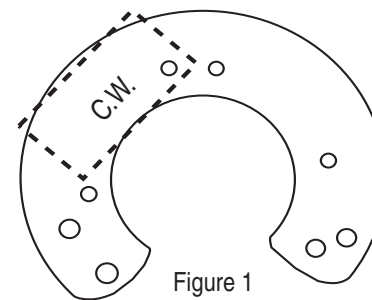

Figure 1
6. Determine the rotation of your distributor rotor and install Ignitor module onto adapter plate (See Figure 1 & 2). Secure the module with the provided screws and lock washers.